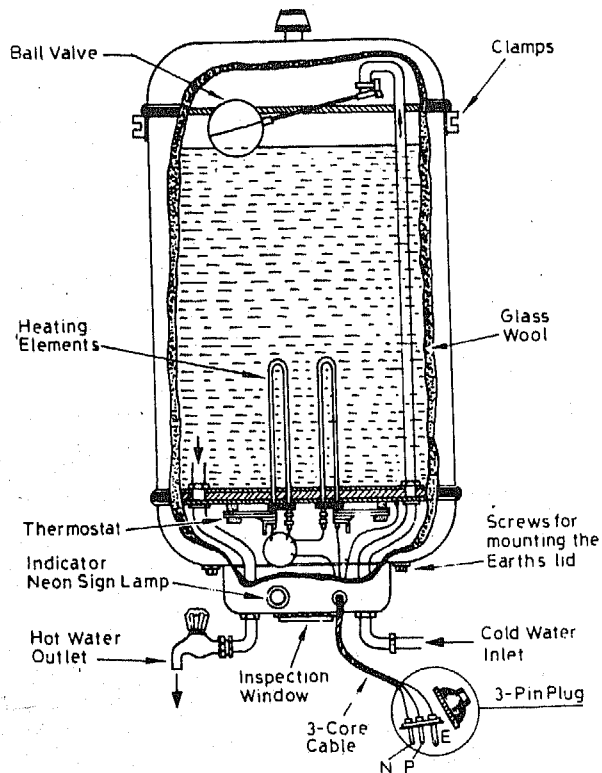

Fig. 22.1 Geyser
- (i) Procure all the tools and materials. Observe the fittings and parts of geyser as shown in Fig. 22.1.